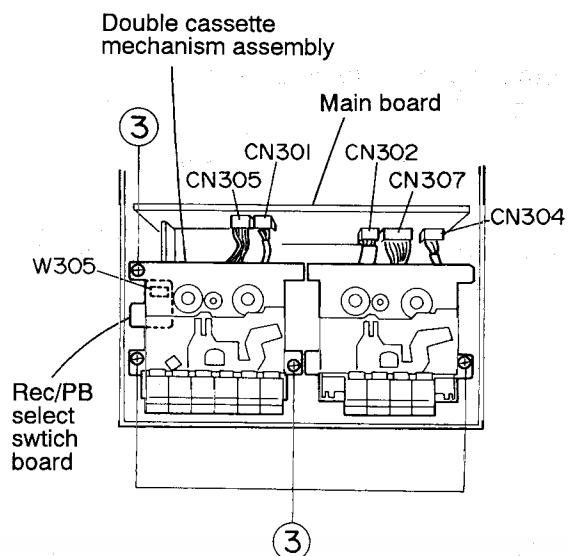

Fig. 5-4
■ Removing the Double Cassette Mechanism Assembly (See Fig. 5-4)
1. Remove the four screws (3) retaining the double cassette mechanism.